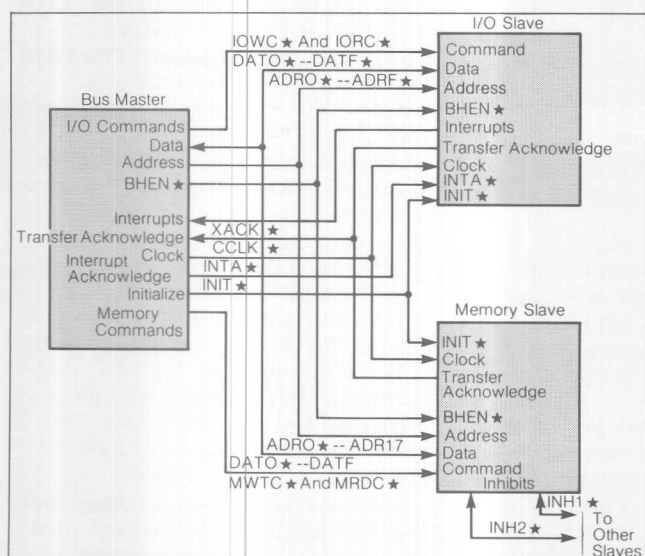

Figure 6: 796 Bus Interface Lines.
The Multibus systems bus signal lines are grouped into five classes based on the functions they perform: 1) control lines 2) address and inhibit lines, 3) data lines, 4) interrupt lines, 5) bus exchange lines. **Figure 6** illustrates the implementation of these signal lines. The Multibus control lines are broken down into five sub-groups: clock signals (2), commands (4), acknowledge (1), initialize (1), and lock (1). The two clock signals provide for the generation of a master clock for the system and the synchronization of bus arbitration logic. The four command lines are the communications links between the bus masters and bus slaves, specifying types of operations to be performed such as reads or writes from memory or I/O. The transfer acknowledge line is the slave's acknowledgement that a requested action of the master is complete. The initialize signal is generated to reset the entire system to a known state. The lock signal is used by an active bus